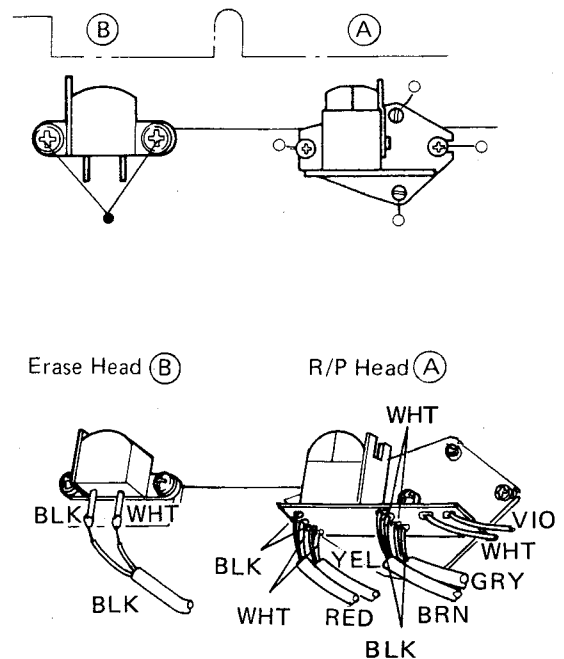

Figure 10
- (2) Remove four screws marked "○" and wires from both sides of the R/P head "A", as shown in Figure 10, and it can be removed, with head P.C. Board. Remove the head from the P.C. Board with a soldering iron.
Remove two screws marked "●" and wires from both sides of the erase head "B" as shown in Figure 10, and it can be removed.